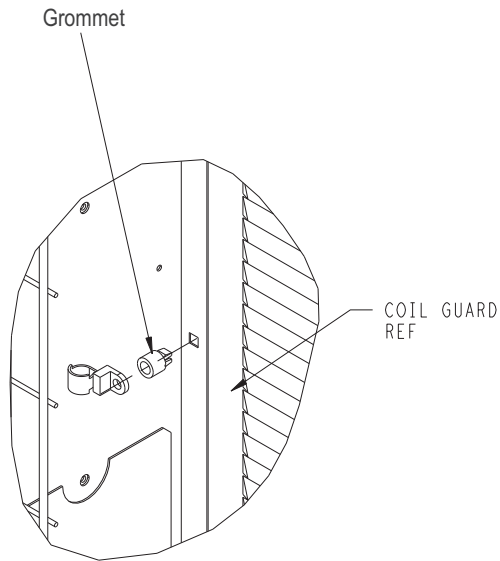

Fig. 3 - Grommets in Side Guards
5. Insert (2) plastic grommets in the square holes of the two side guards of the kit. (See Fig. 3.)